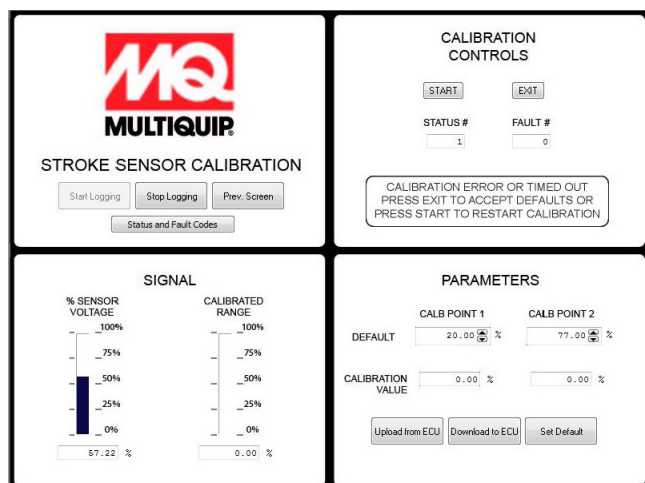

Figure 41. Start Stroke Sensor Calibration
- b. Read % Sensor Voltage (Figure 41).